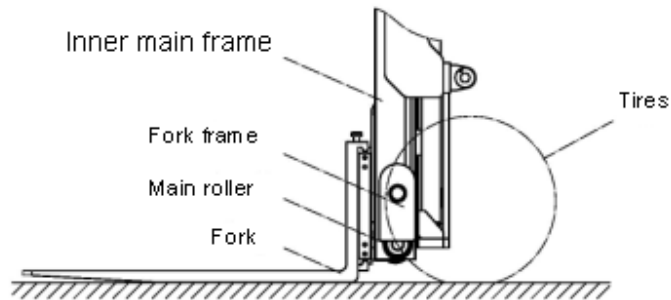

Figure 2-37
7.5.2 Height adjustment of the fork frame (Figure 2-37)